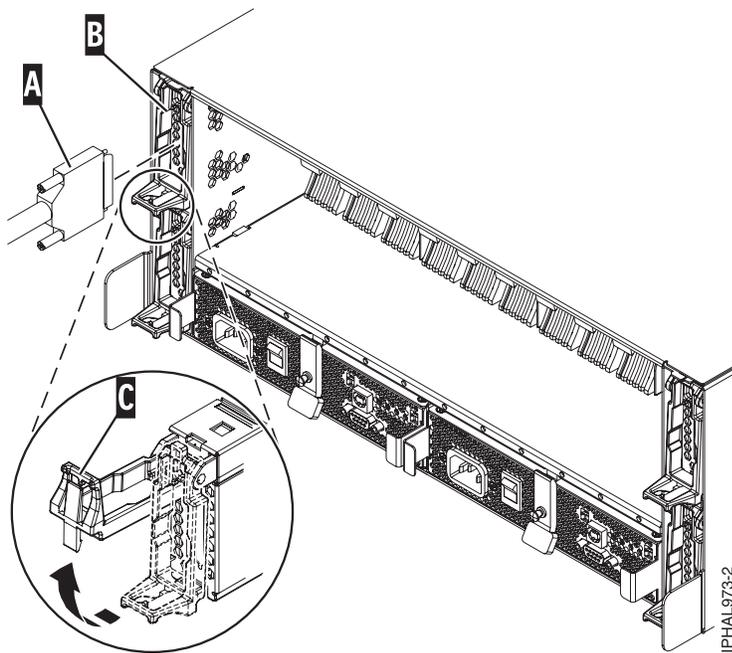
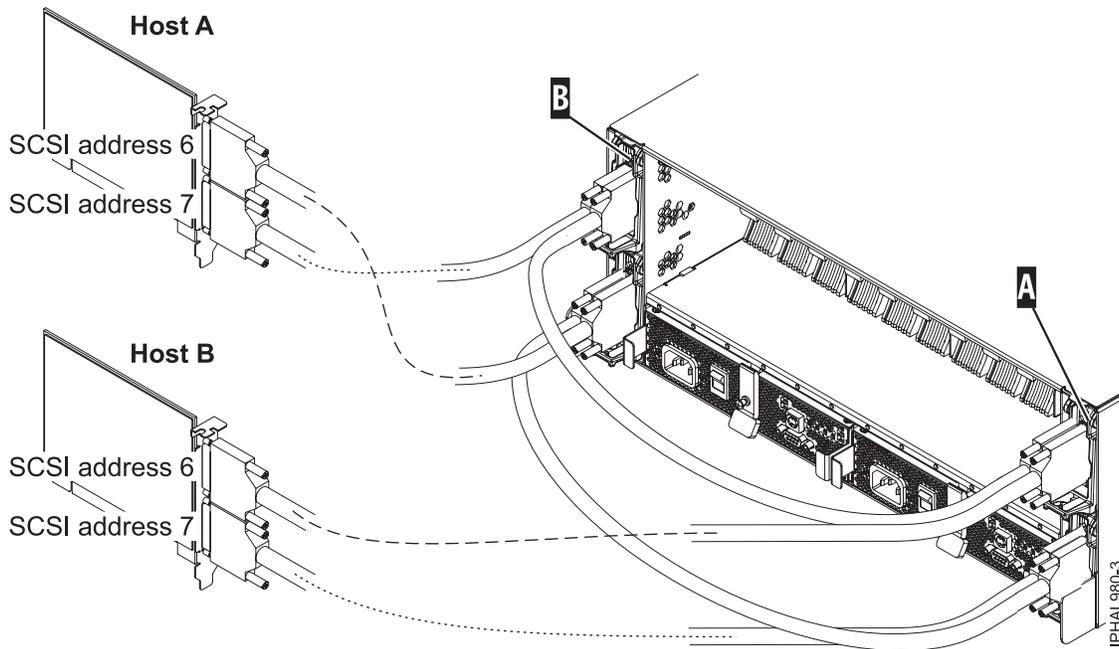
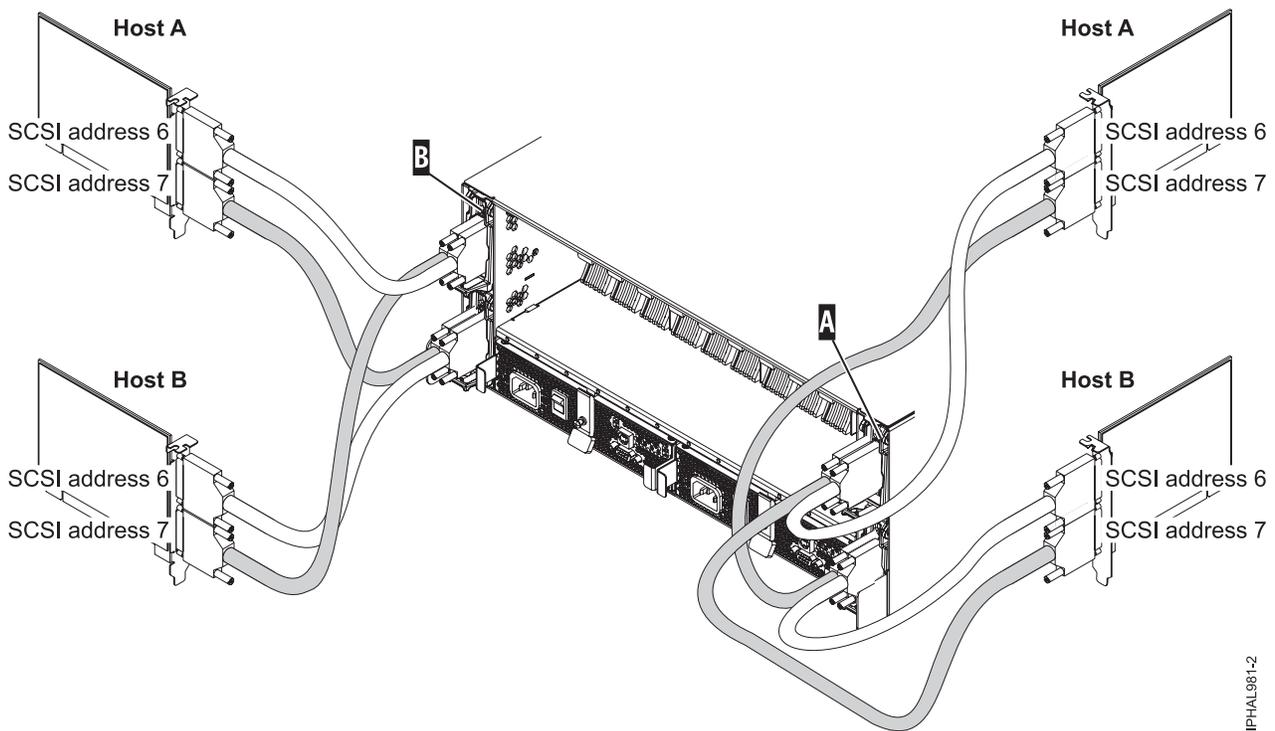

Figure 16. SCSI cable to single repeater card
Figure 17. SCSI cable to dual repeater card connected with two SCSI cards
Figure 18. SCSI cable to dual repeater card connected with four SCSI cards
- If you are using only single repeater cards or only dual repeater cards, install your SCSI cable **A** to the initiator repeater card **B**. For more details, see Figure 16, Figure 17 on page 40, Figure 18 on page 40, depending upon your situation.